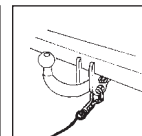

Fig. 2
- Attach the clip directly to the attachment point (Figure 2 below). Note -this must be specifically permitted by the caravan manufacturer's guidance as the clip may not be sufficiently strong.